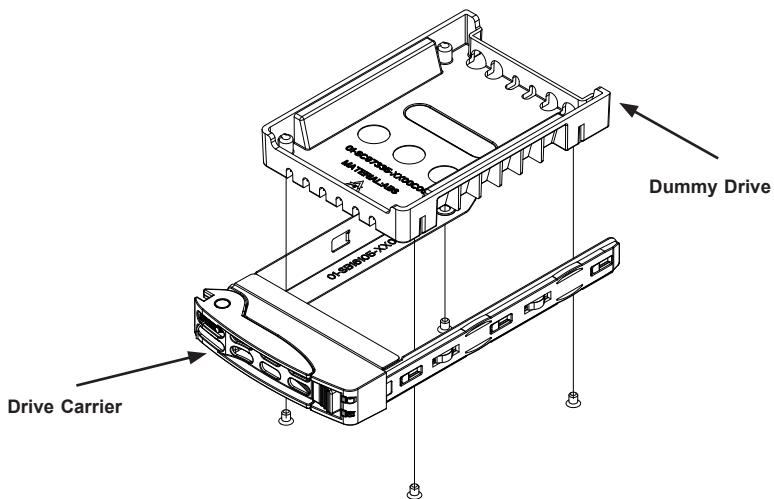

Figure 6-3. Removing a Dummy Drive from Carrier
3. Remove the dummy drive from the carrier (Figure 6-3).